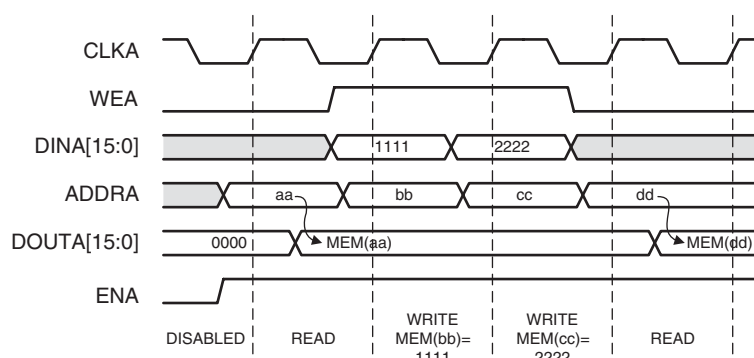

Figure 10: No Change Mode Example
- **No Change Mode:** In NO_CHANGE mode, the output latches remain unchanged during a write operation. As shown in Figure 10, the data output is still the previous read data and is unaffected by a write operation on the same port.